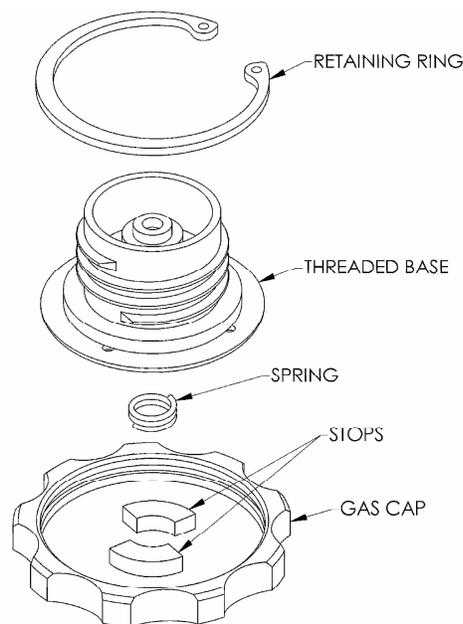

Figure 1
- 6) Place the aluminum gas cap upside down on the work surface. The spring, threaded base, and retaining ring will be reinstalled in the aluminum gas cap as shown in Figure 1.